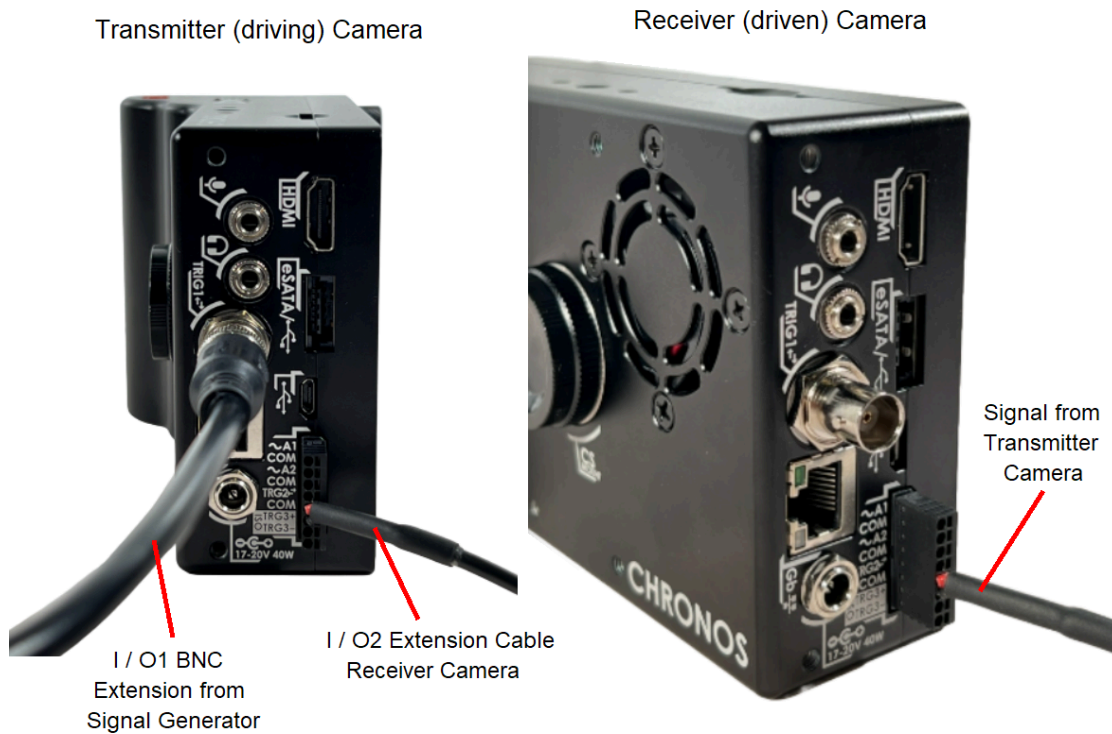

Figure 3.2 Left, connections to and from the driving camera. Right, connection to the driven camera.
- Next, attach the connecting cable to the transmitter and receiver cameras in the I/O2 section of each camera, as seen in **Figure 3.2**. This type of connection is more common with microcontrollers, PLCs, and DAQs.